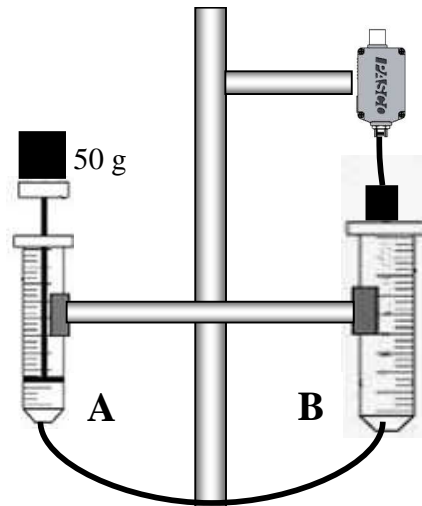

Figure 5: Adding a mass to syringe A.
- Click on the Start icon, and place a 50 g mass on top of piston A as shown in Figure 5. Once you are convinced that the piston has reached equilibrium without friction, record the pressure below.